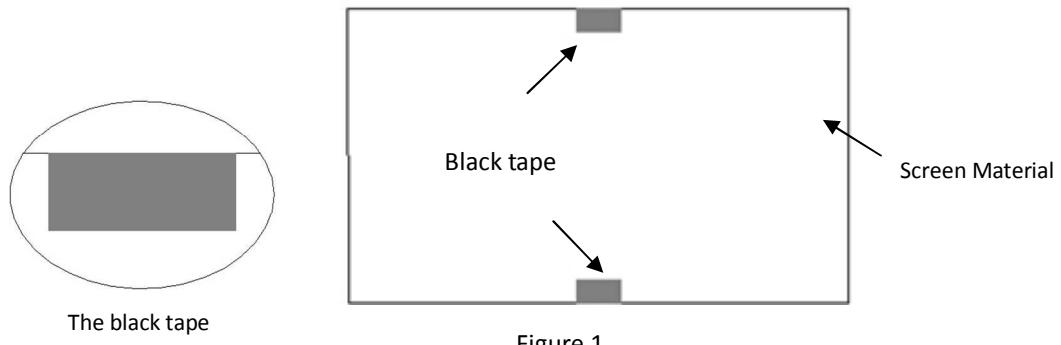

Figure 1
Before handling the StarBright CLR® material, put on the supplied pair of white gloves to avoid leaving fingerprint marks, dust or hand oil on the material's surface (Figure 1). The StarBright CLR® material is very delicate and should be handled with extreme care. Do not allow the material to fold or bend. Failure to follow instructions will result in permanent damage to the screen material, which is not covered by warranty.
1. Place the assembled frame on a flat and clean surface. The projection screen surface should be facing up. Align the tape with the edge of the screen, as shown in Figure 1. Once properly aligned, apply the black tape to the center of the top and bottom of the screen material.